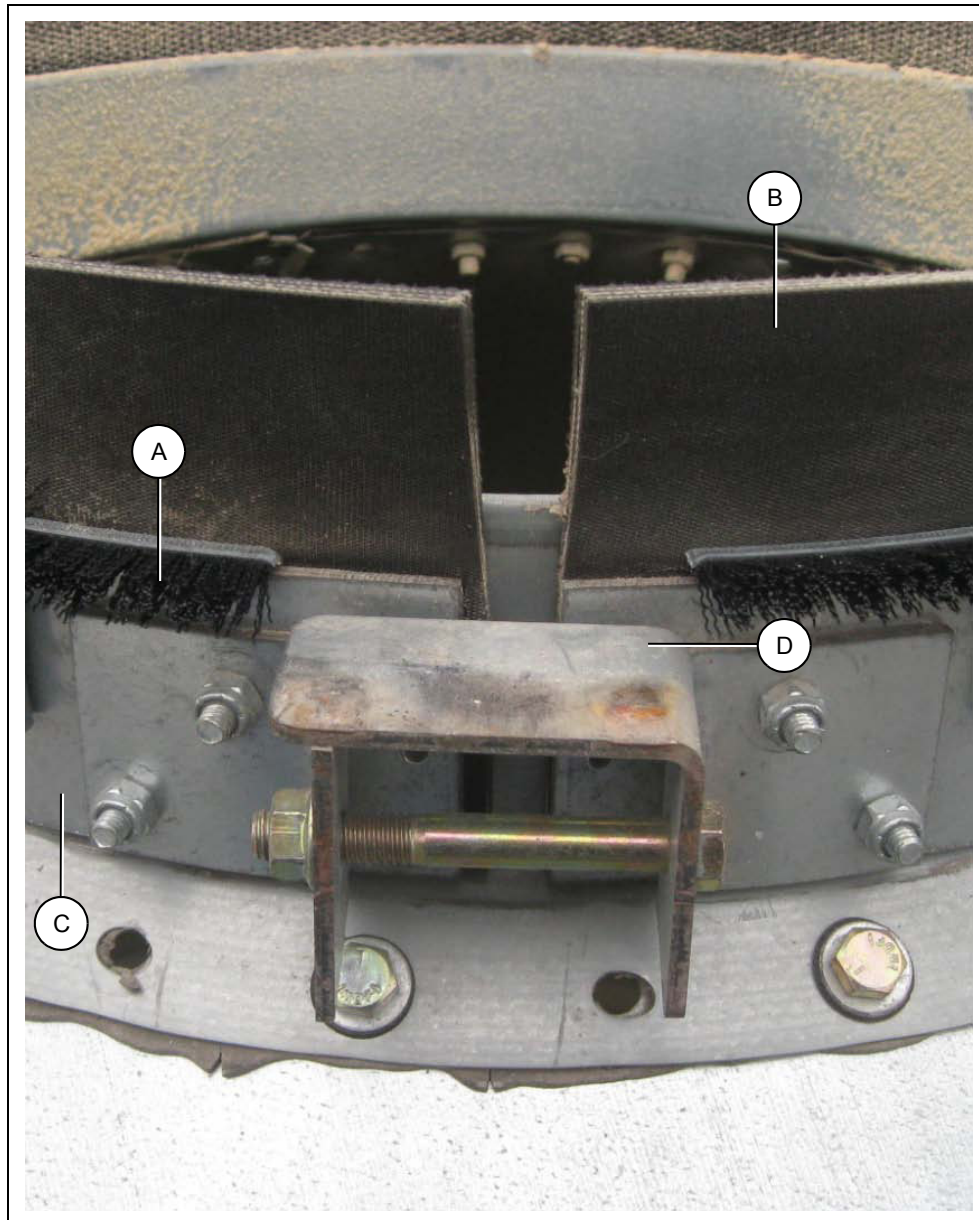

Figure 1
2. Install Snow Guard brush (A) around rubber belting (B) and position it down to the top of the clamp band (C).
3. Rotate the brush with the loose ends on each side of the striker plate (D). (*See Figure 1.*)